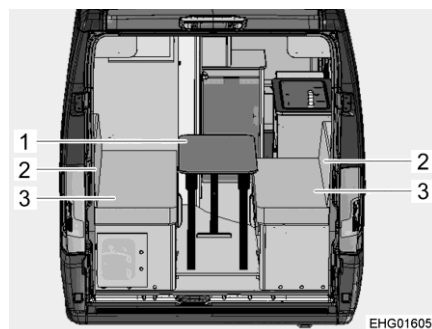

Fig. 64 Prior to conversion
- Fold down the folding table (Fig. 64,1) and place to one side or push into the storage compartment under the pedestal.
- Remove both back cushions (Fig. 64,2). The back cushions each consist of 2 segments (a cushion and a wedge). The cushion is used to form the bed; the wedge can optionally be used to elevate the head.
- Remove both seat cushions (Fig. 64,3).